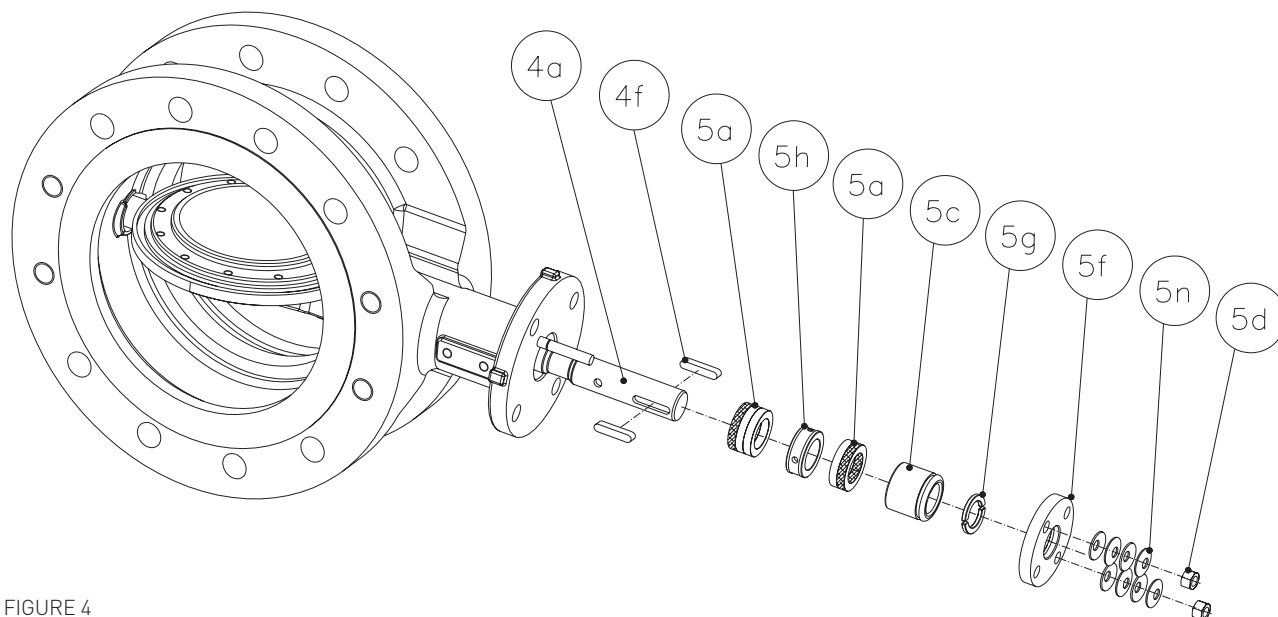

FIGURE 4
Refer to figure 4.
6. Apply a thin film of lubricant on each new packing ring (5a) surfaces (lubricant should be in accordance with Table 3). Insert new packing rings, being mindful of inserting the two braided rings at the bottom and top of the entire packing. If the valve features a packing flush option, insert the lantern ring (5h) in the same original sequence (or as indicated in figure 4). If the packing rings are of the split type, install with splits staggered at 180° from each other.